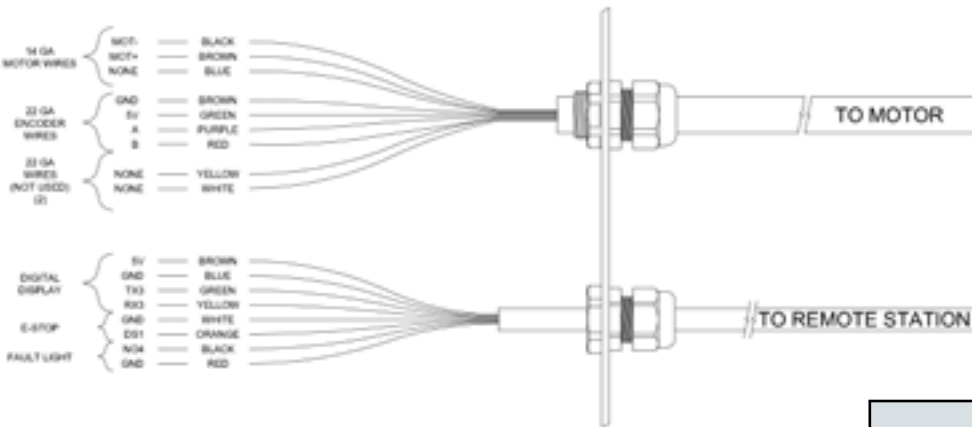

Figure 38: Wiring Harnesses
- 3 Mount detent bracket onto wall track bracket already mounted on door by asi. Hand tighten fasteners (5/16-18 x .75 Carriage bolts and 5/16-18 whizlock nuts) so that detent bracket is approximately centered vertically on slots in bracket (Figure 38).